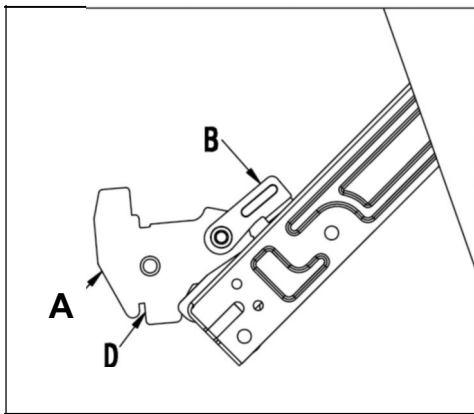

Fig. 1
- > Open the door completely and lift the 2 levers "B" (fig.1);